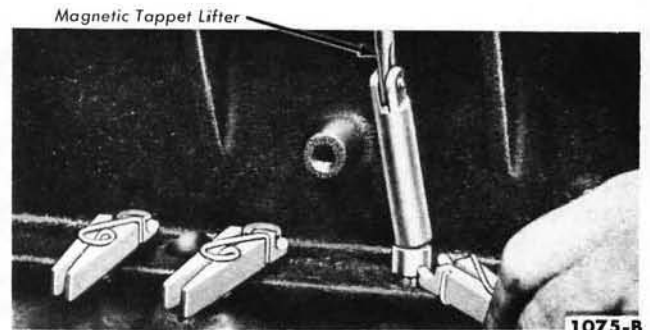

FIG. 29—Lifting and Securing Valve Tappets
6. Turn the camshaft until the tappets can be lifted with either a magnet (Fig. 29) or the fingers. Raise the tappets clear of the camshaft lobes and secure them with spring-type clothes pins or window regulator spring clips (Figs. 29 and 30).